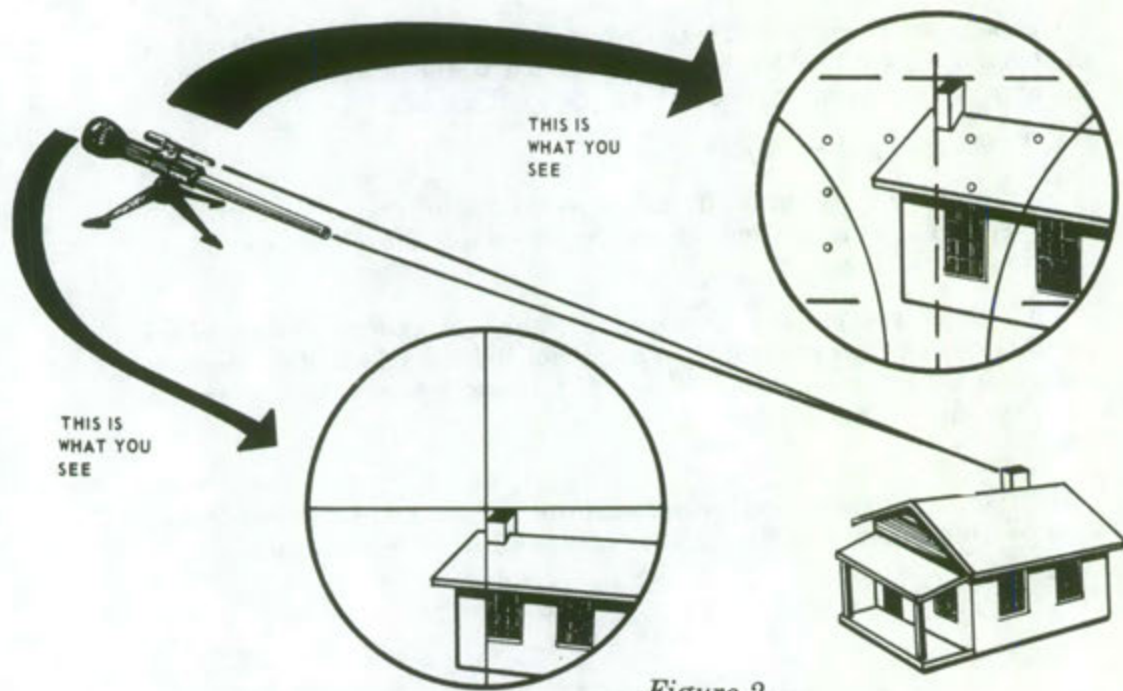

Figure 2.
c. Select an aiming point at a distance between 1000 and 1200 meters (preferably 1100 meters). The target selected should have clearly defined horizontal and vertical lines, so that a definite point can be established. Sight through the boresight disc or the cartridge case primer hole and align the muzzle crosshair on the aiming point by elevating and traversing the rifle (figure 2).